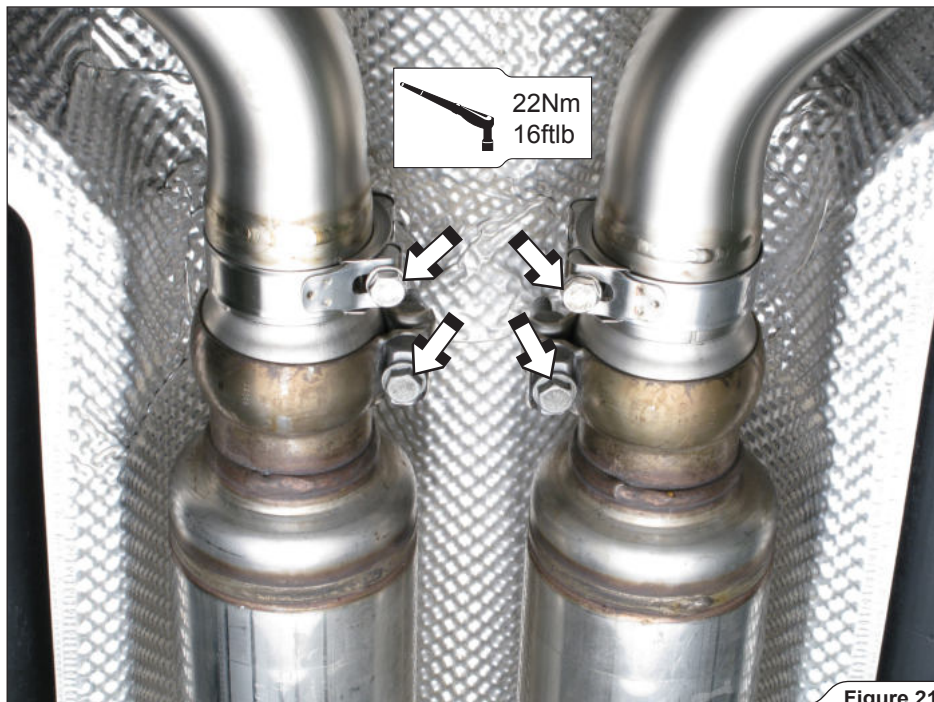

Figure 21
11. **For Slip-On:** tighten the Akrapovič and stock metal clamps on middle pipes-muffler pipes connections to a specified torque (**Figure 21**).